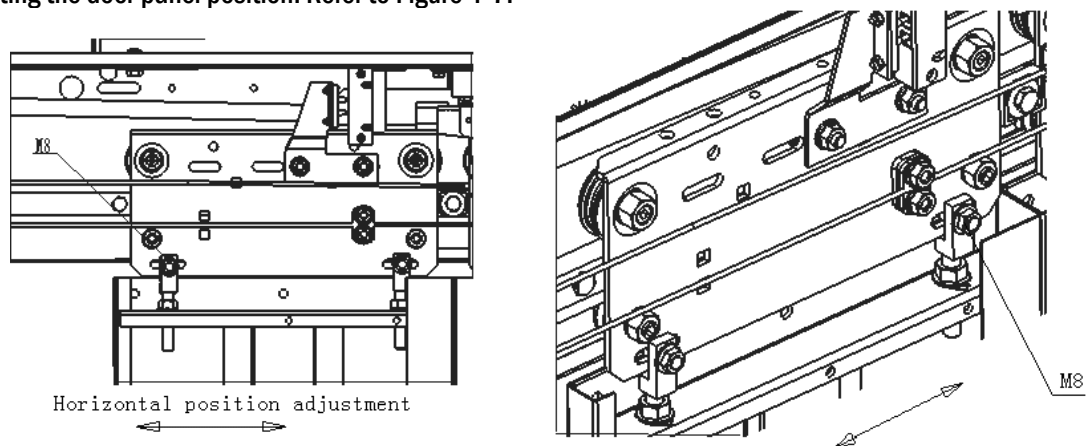

Figure 4-7 Horizontal Adjustment Drawing of Landing Door Panel
a) horizontal adjustment: loose four M8 flange faced hexagonal nuts on the components of the hanger bolts for adjusting the door panel position. Refer to Figure 4-7.